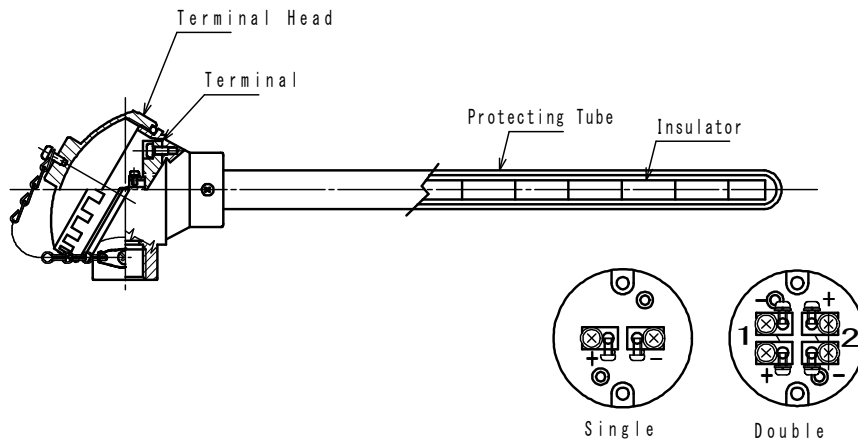
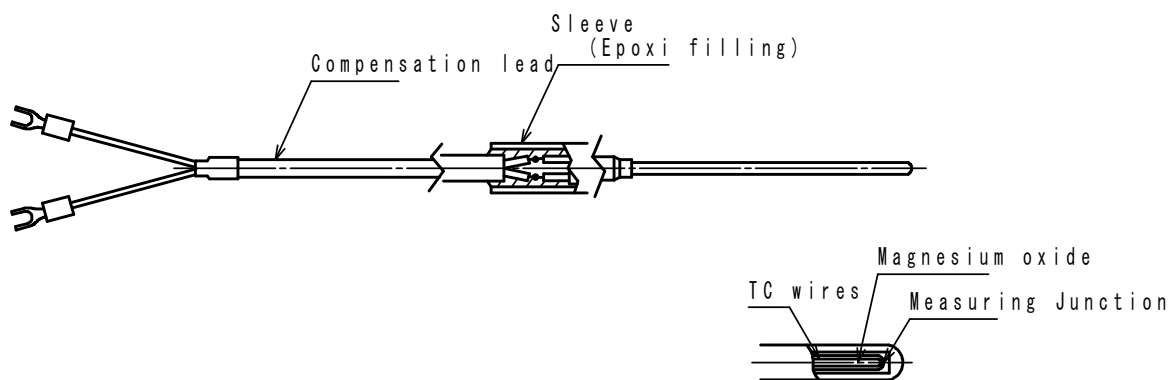

Figure 2.1 General construction of Thermocouples
Figure 2.2 General construction of MI Metal Sheathed thermocouples
A thermocouple with a protecting tube is constructed with thermocouple bare wires, ceramic insulators, a terminal block and a terminal head as shown at Figure 2.1. Mineral insulated thermocouple is a thermocouple with such integrated construction that powdery inorganic insulator (for example, magnesium oxide; MgO) is filled up between metal sheath and thermocouple wires and sealed as shown at Figure 2.2. The MI thermocouple can be made 3(three) types of measuring junctions such as “Ungrounded”, “Grounded,” and “Exposed” junctions. The advantages of MI thermocouple are (1) thinness, (2) fast response, and (3) bendability—bending radius